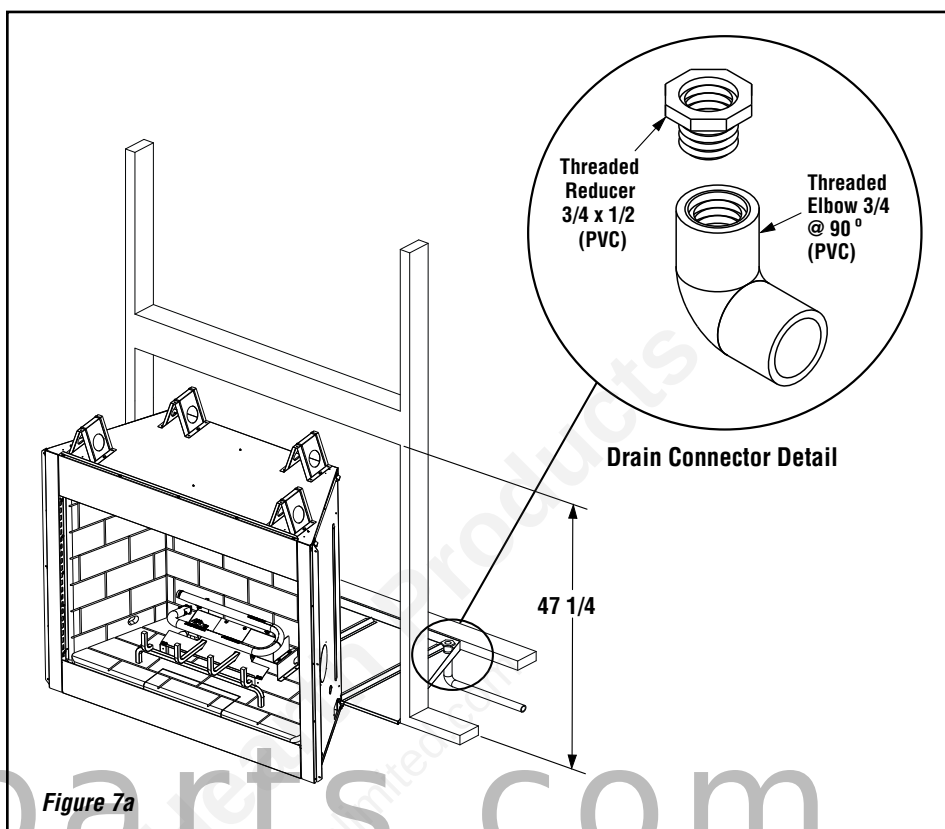

Figure 7a
You may run gas line from either side or back of firebox (see **Figure 7a, Page 11**). Decide which side you want to run gas line from.
**Step 1.** Seal all joints, gaps and corners around the bottom of the drain pan before positioning the fireplace on its location (*Figure 7a*).